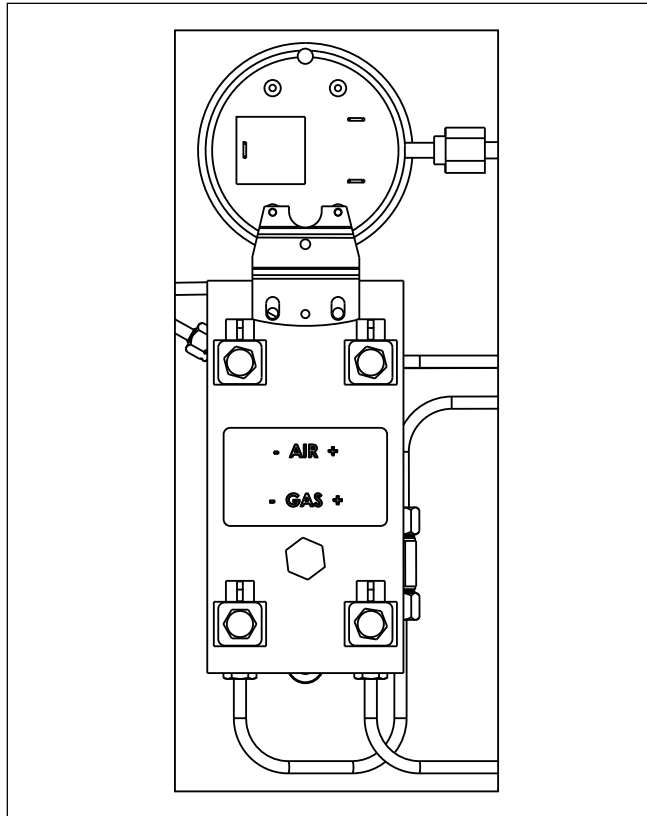

Figure 25. Gas/Air Test Panel.
4. There is a gas/air test panel to the left of the control panel, at the front of the unit (see Figures 25 and 32). Ensure that all four valves on the test